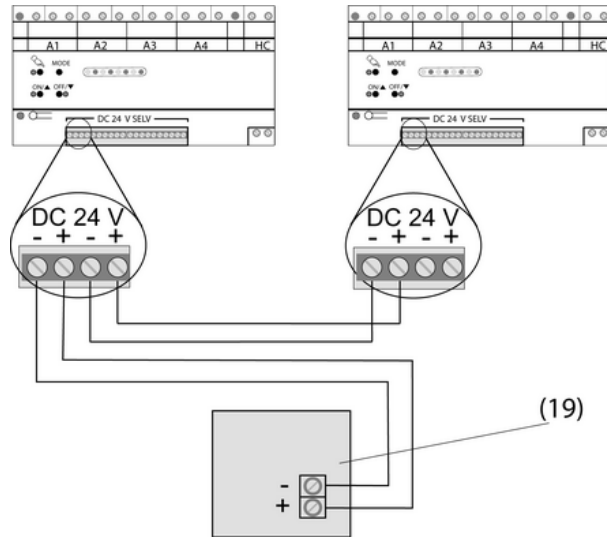

Figure 8: Connection example for one sensor module or push-button module to two dimmer stations
- Connect the sensor module or push-button module to two dimmer stations according to the connection example (figure 8).